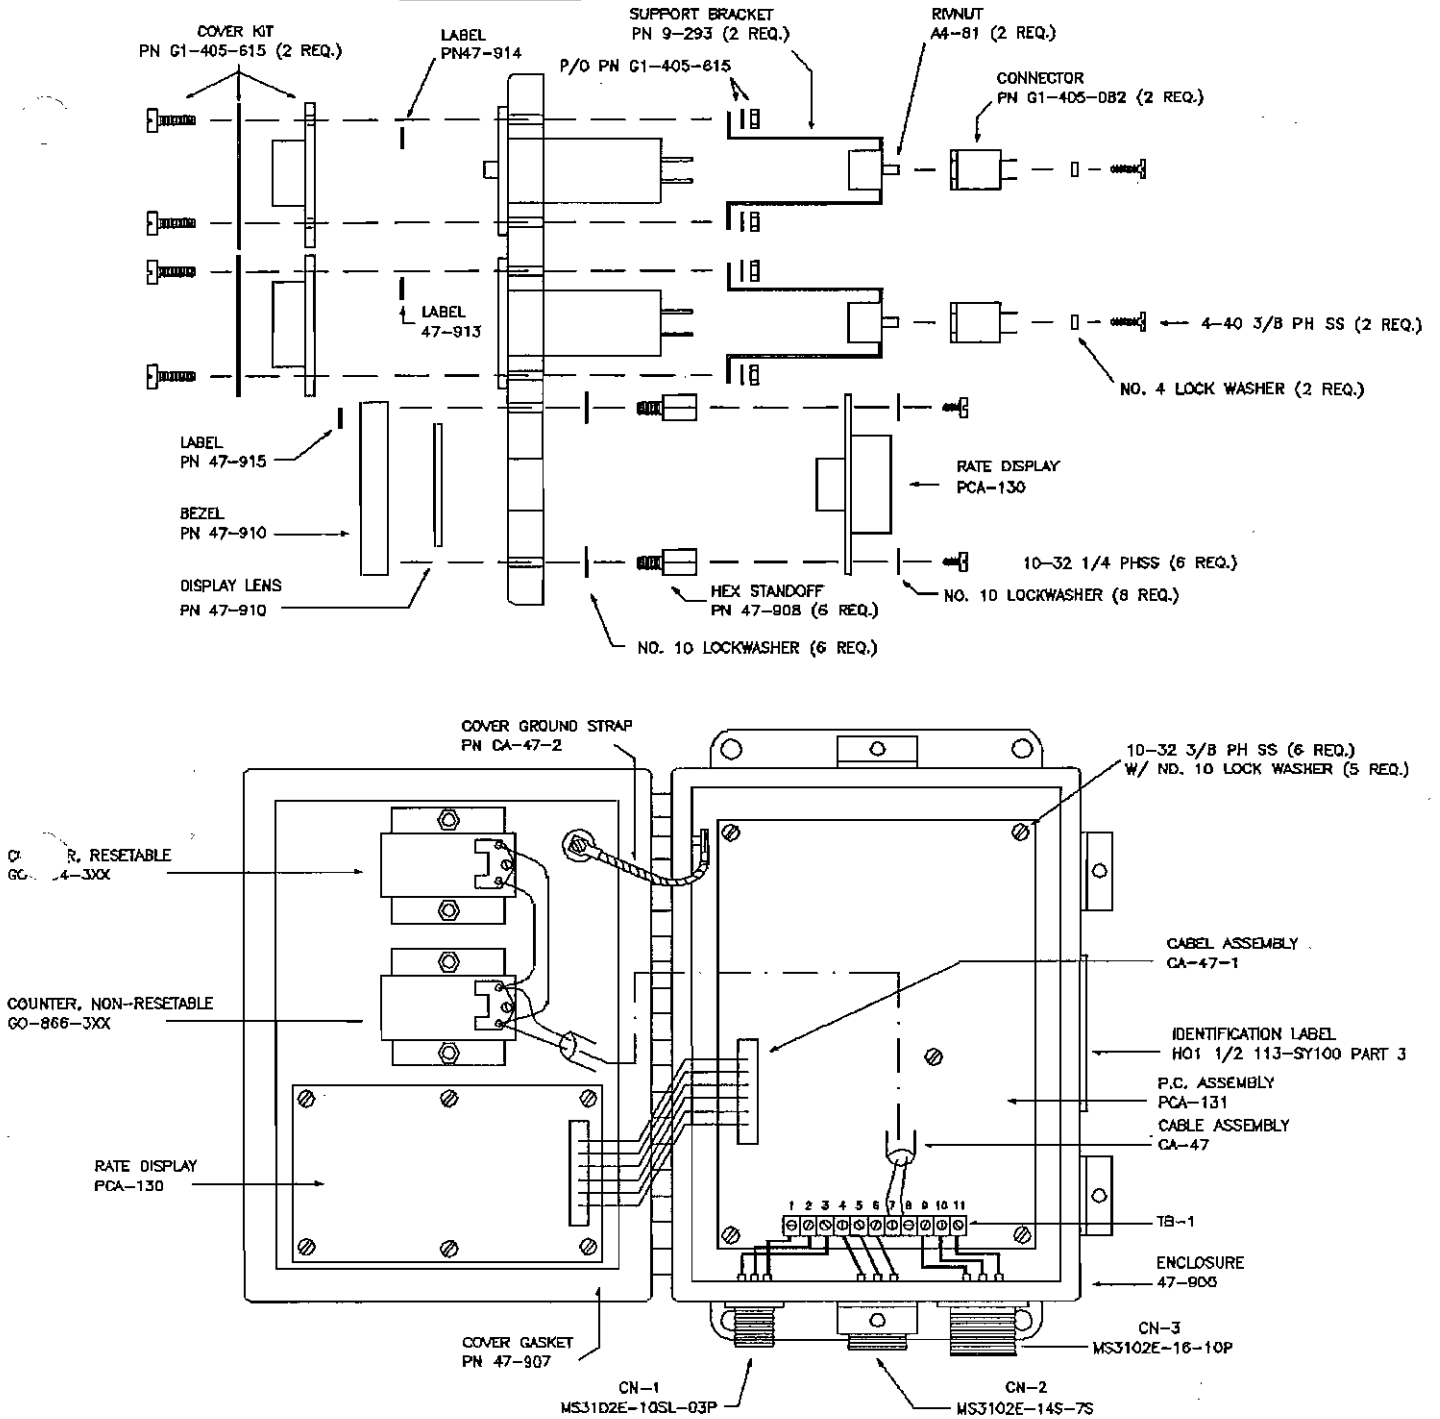

FIGURE 5-3 47-SY100 ELECTRONICS UNIT
3. Connect the digital multimeter to TPDC (negative) and TP1 (positive). A voltage of +5.0 volts +/-0.5 volts should be measured. Absence of this voltage indicates failure of the PCA-131 printed circuit assembly. Refer to figure 5-3 for removal.